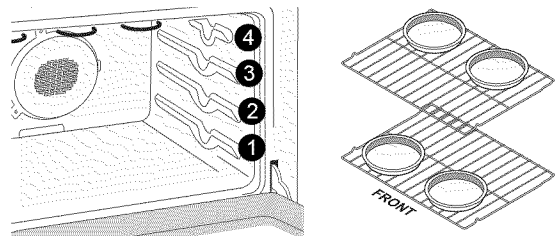

Figure 17: Suggested rack positions and pan spacing for convection baking
- When using any single rack, position the rack so that the food is in the center of the oven. When baking using two oven racks, position bakeware as shown in Figure 17. Place the top (flat) rack in position 3 and the bottom rack in position 1. Allow at least 2 inches (5 cm) of space between bakeware for proper air circulation and use the offset rack (if available) in the bottom position.
- When using convection bake with a single rack, place oven rack in center of oven. (Figure 17) If cooking on multiple racks, place the oven racks in positions 1 and 3.